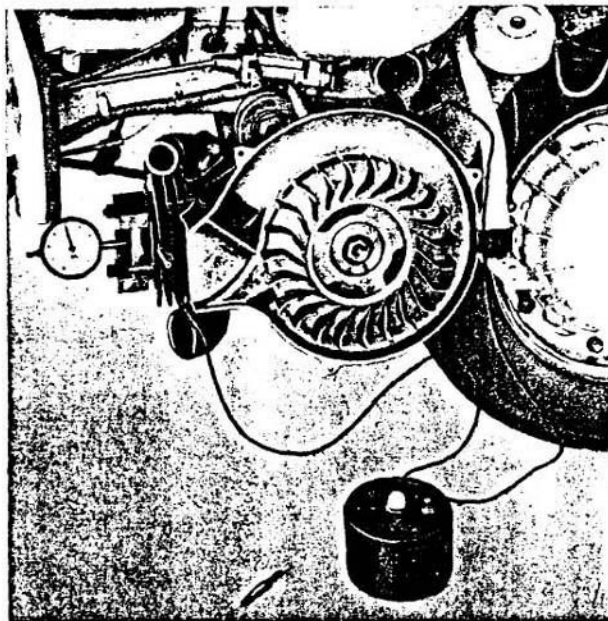

Fig. 39
- Op. 71 Remove cylinder Head (Op. 1, 2, 3, 8, 10, 20, 21, 22, 23, 24) and fit Tool No. 57988 which can be locked into position by means of two of the four cylinder studs. To this Tool fit the dial gauge. See Fig. 39.
buzzer light goes out, which indicates that the contact points have closed take the dial reading. This should be between 3.8 and 4.4 mms. corresponding to an angle of rotation of the flywheel of  $27^{\circ} \pm 1^{\circ}$  or to a measurement of 32 to 33 mms. measured on the perimeter of the flywheel. Should the points close before or after the above, remove flywheel (rotating part only), loosen the screws fixing stator plate, move the plate in a clockwise direction to advance or in anti-clockwise direction to retard until the moment correct contact point opening is reached. See Fig. 39.